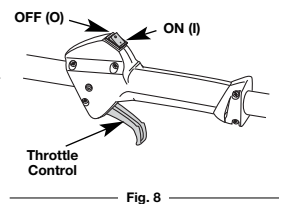

Fig. 8
**NOTE:** There is no need to turn the unit on. The On/Off Stop Control is in the ON (I) position at all times (Fig. 8).
2. Press and hold the On/Off Stop Control switch in the OFF (O) position until the unit comes to a complete stop (Fig. 8).